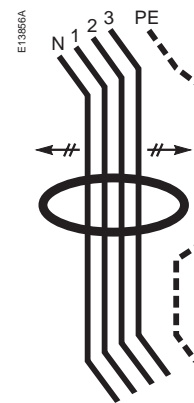

Figure 1.
- use a toroid with a diameter far larger than the diameter of the cable (2 x diameter), (figure 1).